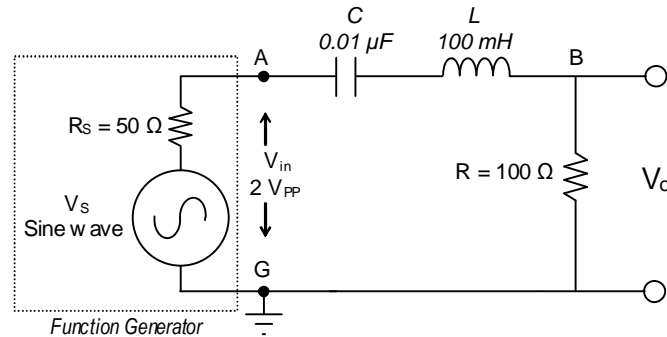

Figure 7.3 Series RLC circuit.
- Set up the series RLC circuit shown in Figure 7.3, using the function generator to provide the sinusoidal input voltage.